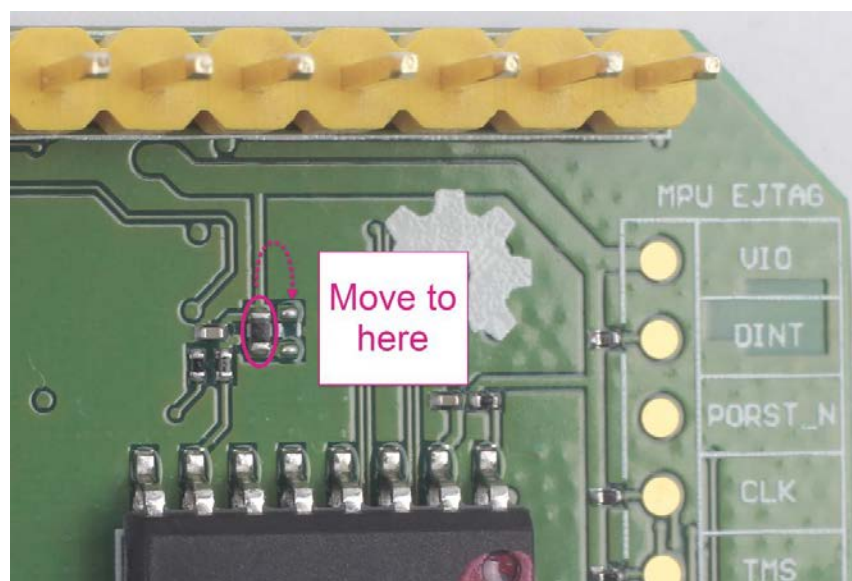

Figure 9 Moving a resistor to access JTAG mode
- 2) Next, you will move a resistor by unsoldering and soldering it to a position to the right as shown in Figure 9, after you're finished moving the resistor, restart the device and you should be able to access JTAG mode.